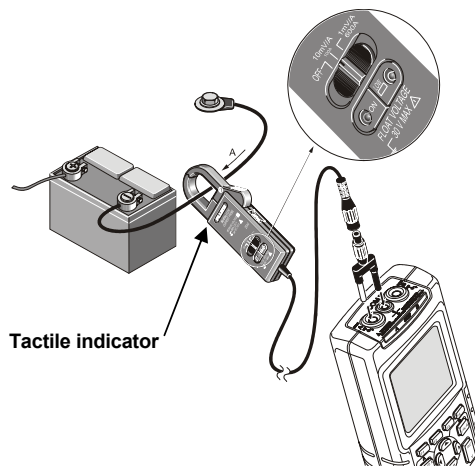

Figure 2. Measuring Setup.
- Do not hold the Current Probe anywhere beyond the tactile indicator, see Figure 2.
Refer to Figure 2 and proceed as follows: